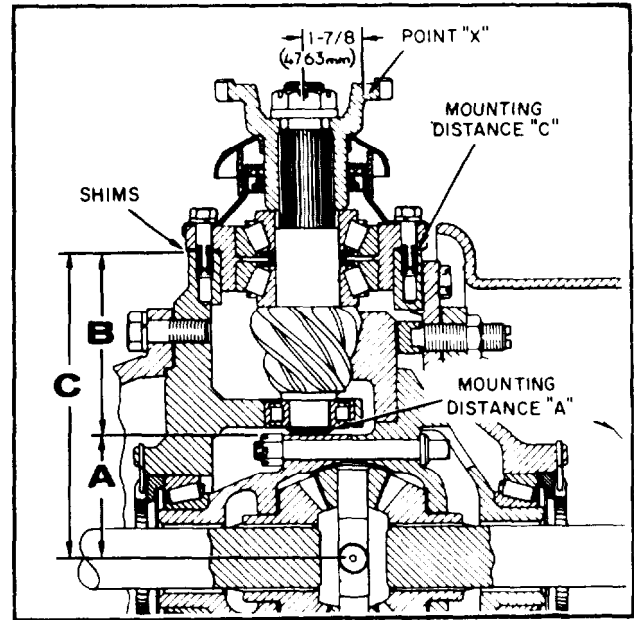

FIGURE 8-35.
### 8-38. PINION INSTALLATION (see figure 8-35).
in. (90.2 mm) from the end of the pinion to the center line of the bevel ring gear and is stamped on the pinion shaft end (see figure 8-35). Add or subtract, as indicated, the variation from the nominal value to obtain the actual mounting distance "A".
b. Install pinion within  $\pm .001$  in. (.0254 mm) by installing shims where shown in figure 8-35. Coat capscrews with John Crane No. 2 sealer or equivalent and torque them to 55 ft.-lbs. (7.60 kg-m). Shim requirement may be determined as follows:
(3). From the sum of "A" plus "B" subtract the mounting distance "C" from pinion cage mounting surface to center line of the bevel ring gear. This dimension is stamped on the final drive housing adjacent to the mounting surface (see figures 8-35 and 8-36). The difference is the required shim thickness.